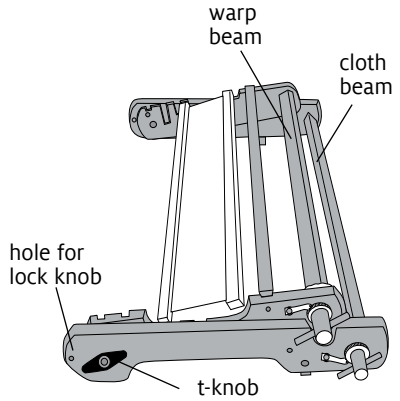

FIGURE 2: UNFOLDING FLIP
- Loosen the black t-knobs on each side of the loom (figure 2).
- With the loom in the open position, insert the lock knobs (figure 2) on each side. Tighten lock knobs and black t-knobs.